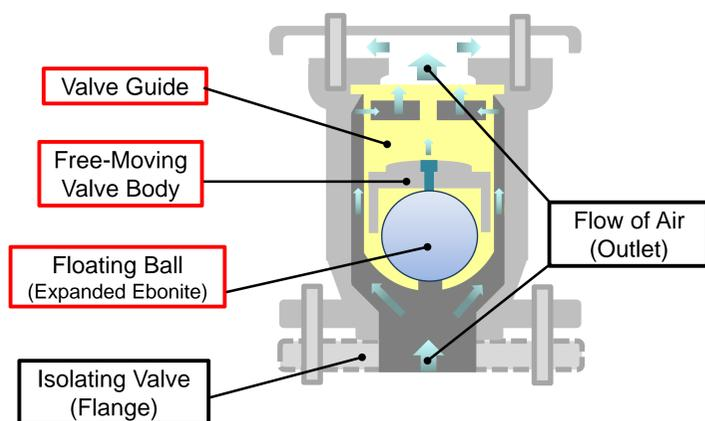

Figure 3. Cross Section of Quick Air-Valve
- The floating ball uses expanded ebonite for its core, making it more resistant to compression than hollow stainless steel. (Figure 3)
- The free-moving valve body and valve guide use ABS resin, polyethylene resin, rigid PVC resin and so on, which are highly resistant to compression. (Figure 3)